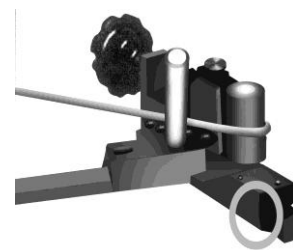

Figure 7
3. If you are doing coils, you may want to use a spacer for the repetitive to ensure that the spaces between the loops are even and regular as shown in figure 7.